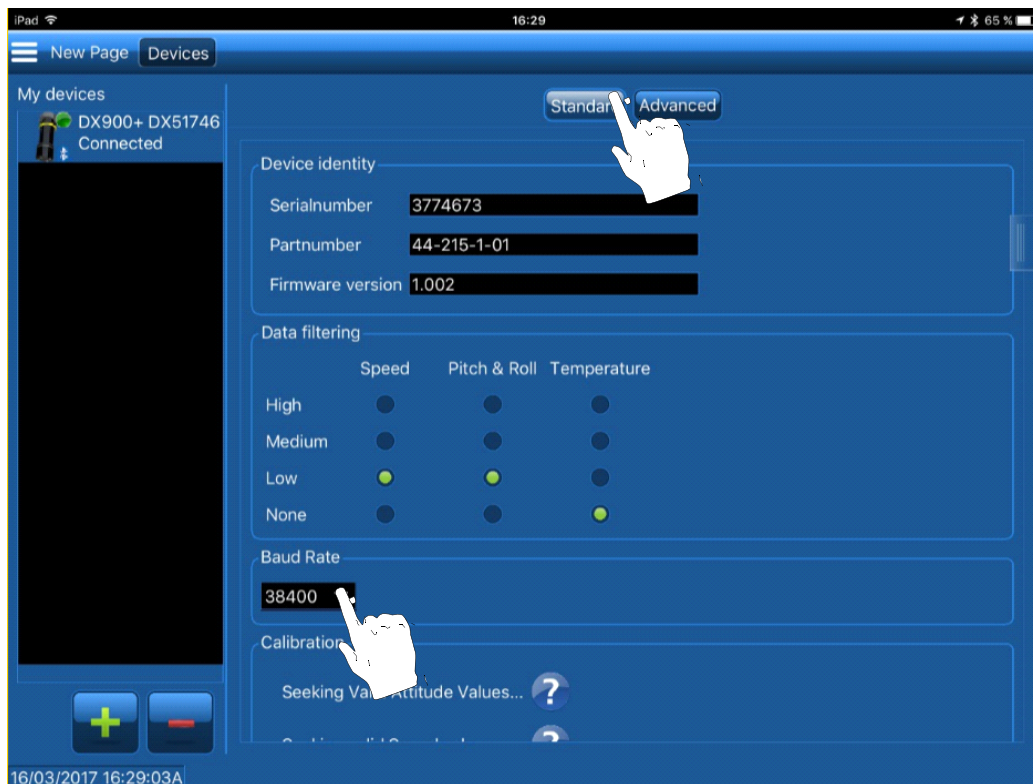

Figure 18. Adjusting the Baud Rate (Speed & Temperature sensors only)
2. Touch **Standard** (Figure 18).